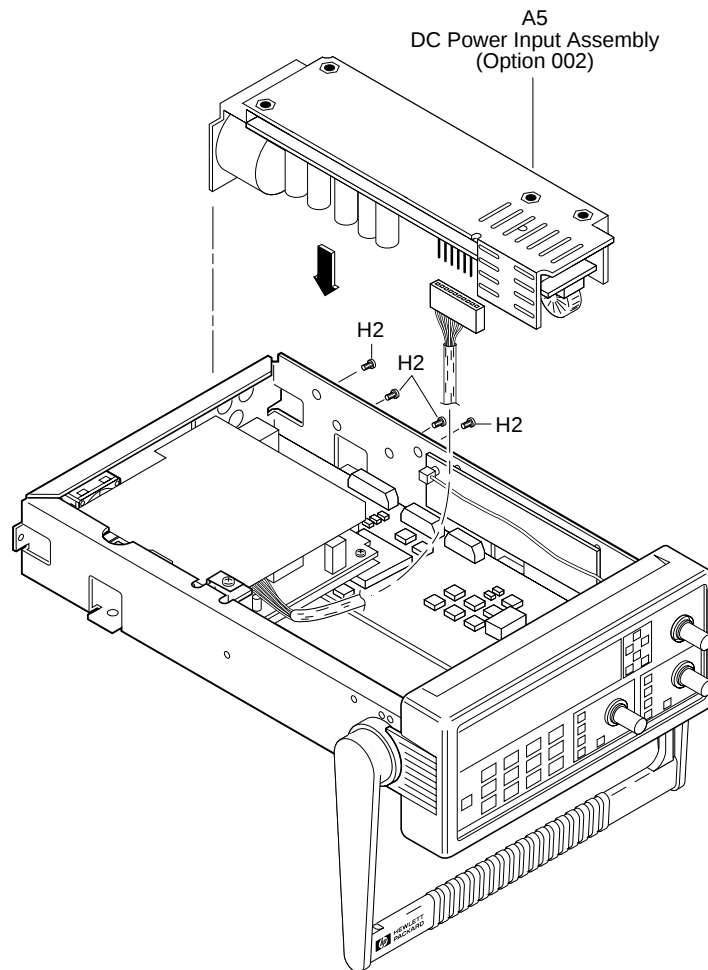

Figure 4-1C. DC Power Input Assembly Retrofitting
- a. First, connect the other ac power supply cable to the connector on A5 printed-circuit board as shown in Figure 4-1C.**
- c. Using the four TORX 10 screws (H2), secure A5 DC Power Input Assembly to the side of the chassis (MP10) as shown in Figure 4-1C.**